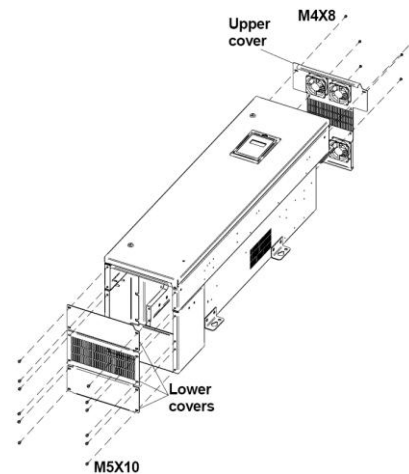

Figure 7.4.4 Remove the covers
See the figure 7.4.4 while following the next instructions:
- 1) Put the lower covers as the figure 7.4.4 shows.